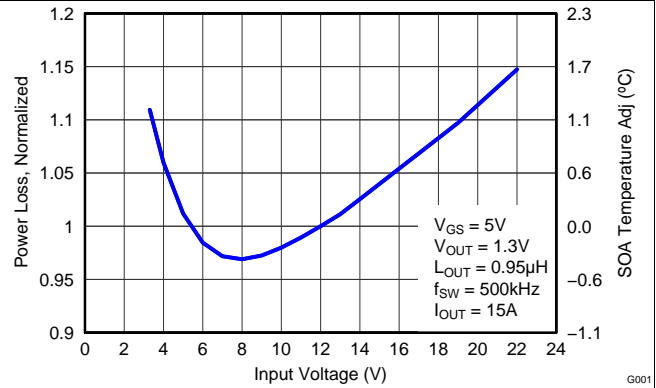

Figure 6. Normalized Power Loss vs Input Voltage
- Normalized Power Loss for input voltage ≈ 1.06 (Figure 6)
- SOA adjustment for input voltage $\approx 0.7^{\circ}\text{C}$ (Figure 6)